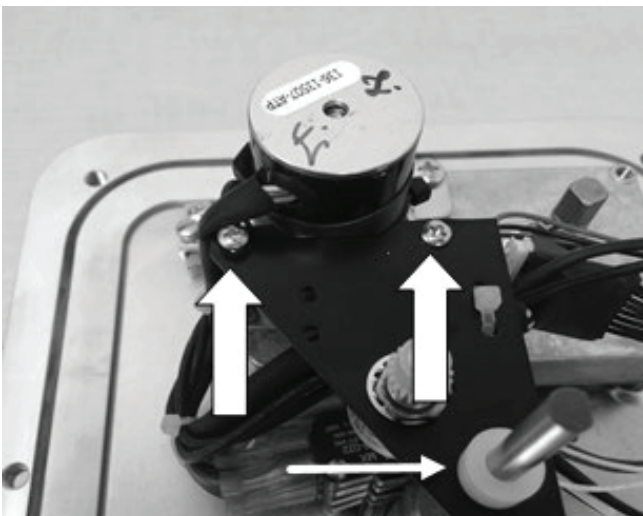

Figure 26.
- 4.28 Re-install the potentiometer bracket on the standoffs, and replace the two Philips screws, see Figure 26.